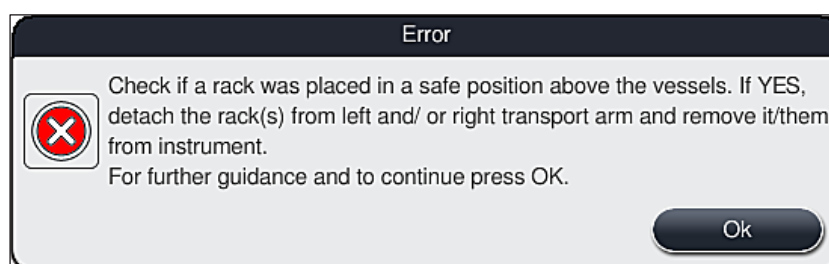
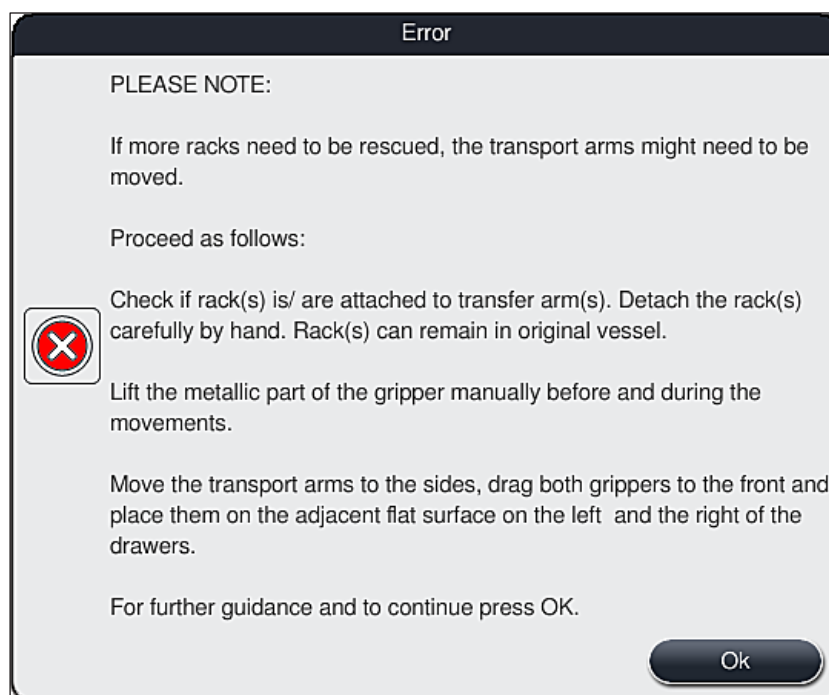

Fig. 106
Fig. 107
2. Following this, this information message prompts the user to check (→ "Fig. 106") whether or not the instrument has placed one or two racks in a secure position between two reagent vessels (→ "Fig. 102").
3. After pressing the **OK** button (→ "Fig. 106"), another information message appears (→ "Fig. 107") that provides the user with instructions regarding the correct procedure for removing the respective racks.